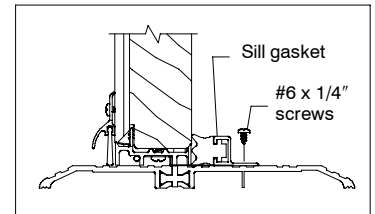

Figure 9
- Set sill gasket on the sill and press it tight up against the door panels. Using the sill gasket as a guide, pre-drill 7/64" holes through the sill at each hole in the sill gasket. Fasten sill gasket to the sill with #6 x 1/4" screws. See figure 9.